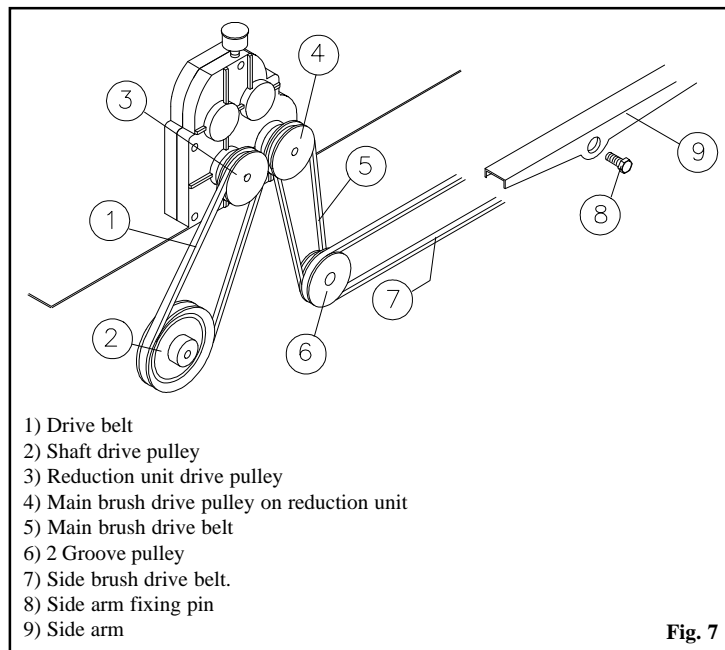

Fig. 7
- Remove belt **pos. 7 Fig. 7** from the groove of pulley **pos. 6 Fig. 7**.
- Remove belt **pos. 5 Fig. 7** from the groove of pulleys **pos. 4 Fig. 7** and **pos. 6 Fig. 7**.
- Position belt **pos. 7 Fig. 7** on pulley **pos. 6 Fig. 7**.
- Remove belt **pos. 7 Fig. 7** from pulley **pos. 6 Fig. 7**.
- Loosen fixing pin **pos. 8 Fig. 7** and let the hooks of side arm **pos. 9 Fig. 7** come out of the idle toothed ring.
- Remove belt **pos. 7 Fig. 7** from side arm **pos. 9 Fig. 7**.
- Hook side arm **pos. 9 Fig. 7** to the idle toothed ring.
- Tighten pin **pos. 8 Fig. 7**.
- Place belt **pos. 7 Fig. 7** on pulley **pos. 6 Fig. 7**.
- Loosen the pulley **pos. 4 Fig. 7** fixing screw and take it out of the reduction unit shaft, paying attention not to loose the key.
- Unscrew the pulley **pos. 3 Fig. 7** fixing screw and take it out of the reduction unit shaft, paying attention not to loose the key.
- Remove belt **pos. 1 Fig. 7**.
- Place the new belt on pulley **pos. 2 Fig. 7**.
- Mount pulley **pos. 3 Fig. 7** on the reduction unit along with the belt.